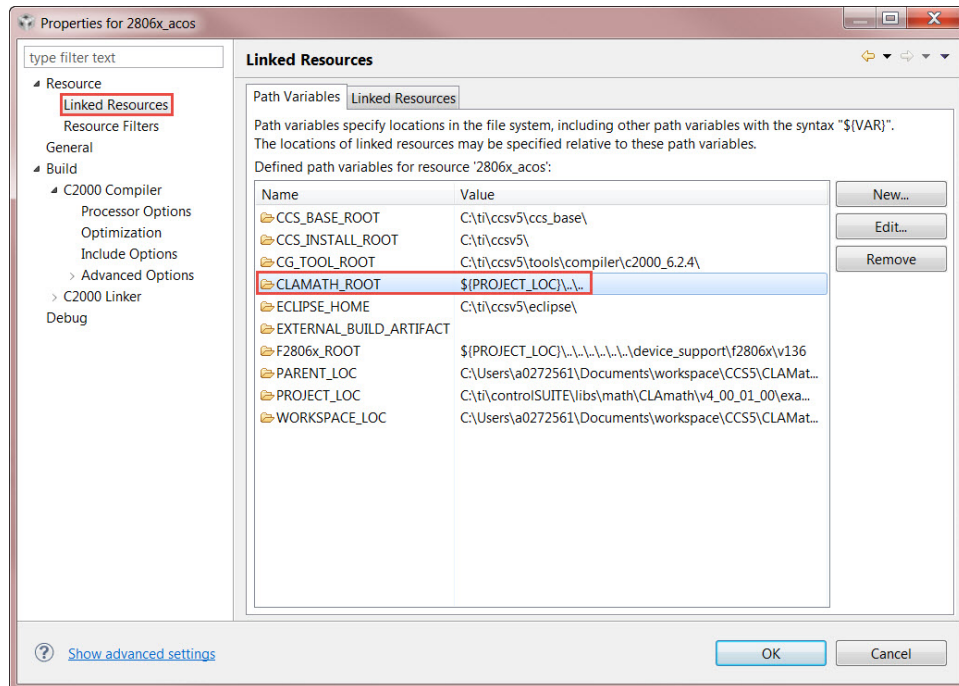

Figure 4.5: Creating a new build variable
1. Go to **Project Properties->Linked Resources** and add a new variable (see Fig. 4.5), CLAMATH\_ROOT, and point it to the root directory of the CLA Math library in C2000Ware, i.e. the c28 folder.